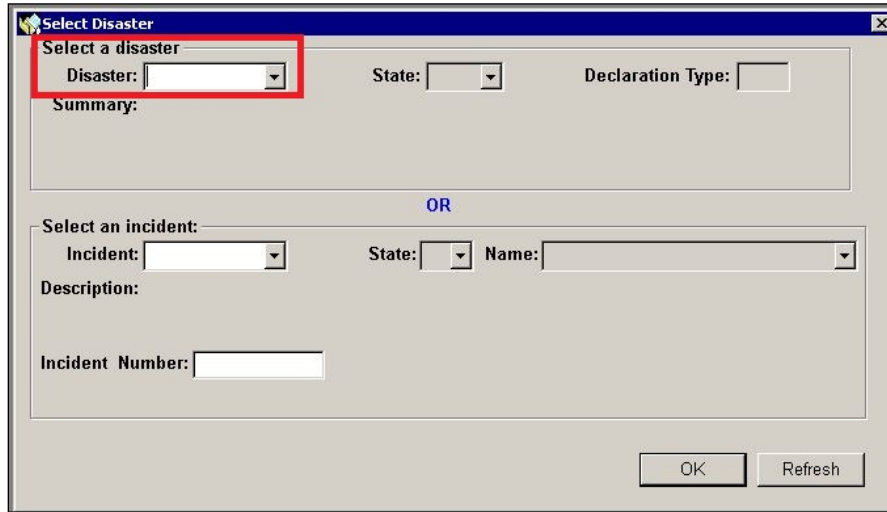

Figure 1-10: Select Disaster Dialog Box
- Click the OK button. The Select Disaster dialog box is displayed (Figure 1-10).